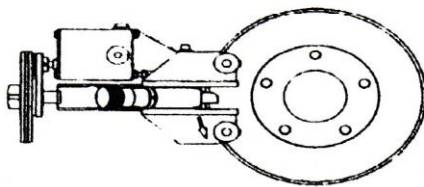

Fig. 40
- 2- If necessary turn the BL-718 180 degrees, with the power feed underneath , fig 40.